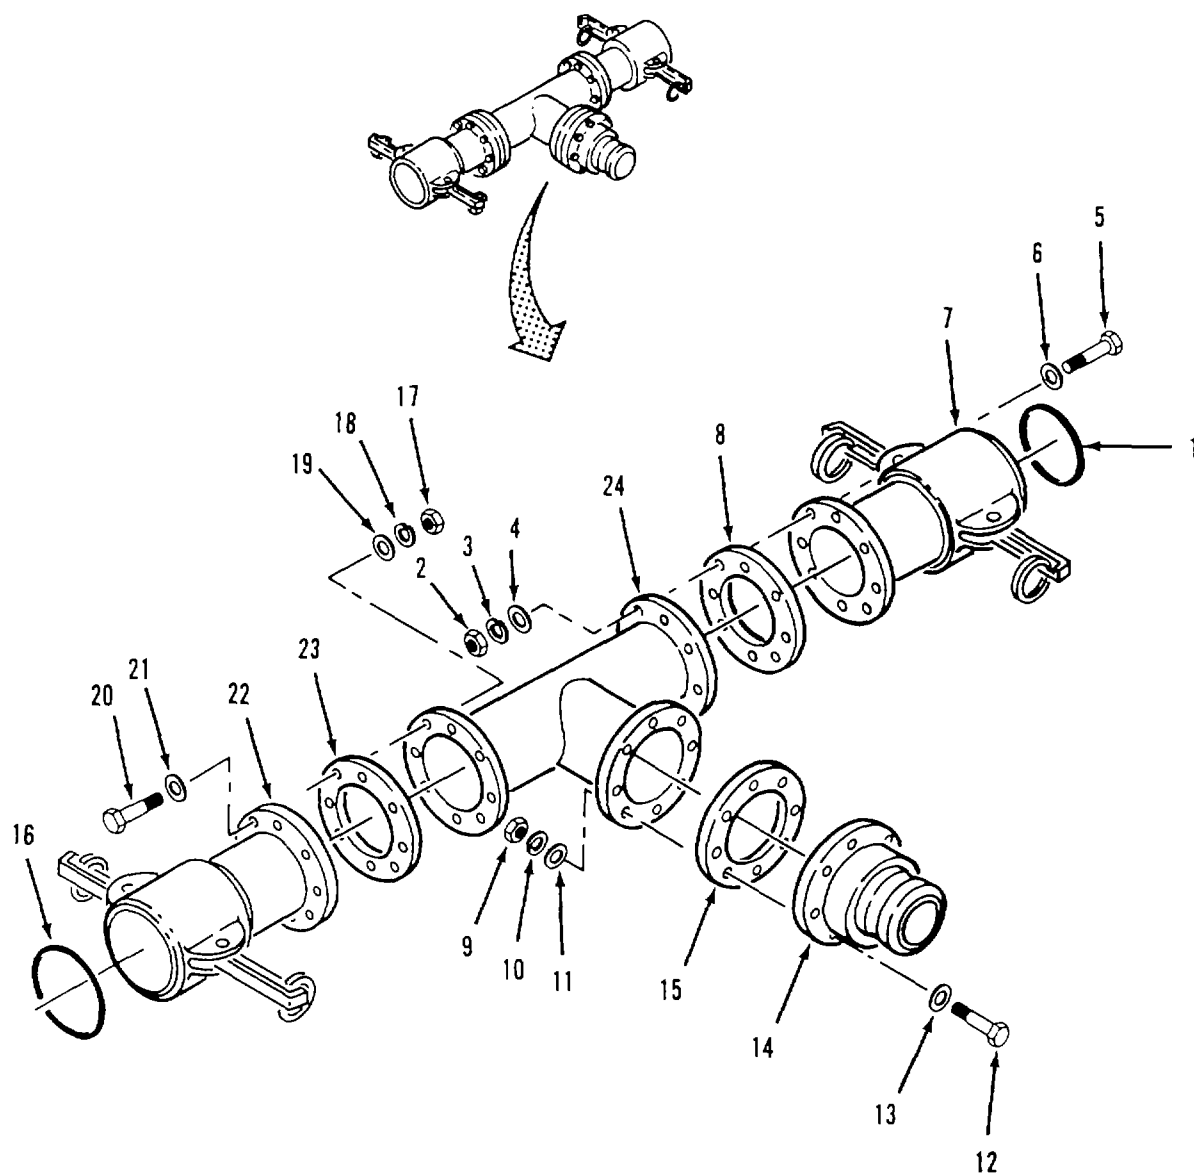

Figure 4-19. Tee Assembly (9112-Y1) Disassembly
a. Disassembly. Refer to figure 4-19.
- (1) Remove gasket (1) from female coupling (7).
- (2) Remove eight nuts (2), lockwashers (3), flat washers (4) screws (5) and flat washers (6).
- (3) Separate female coupling (7) and gasket (8) from tee (24).
- (4) Remove eight nuts (9), lockwashers (10), flat washers (11), screws (12) and flat washers (13).
- (5) Separate male coupling (14) and gasket (15) from tee (24).
- (6) Remove gasket (16) from female coupling (22).
- (7) Remove eight nuts (17), lockwashers (18), flat washers (19) screws (20) and flat washers (21).